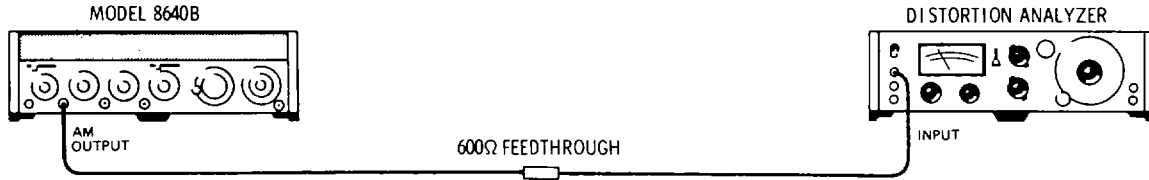

Figure 4-17. Internal Modulation Oscillator Distortion Test Setup.
1. Connect equipment as shown in Figure 4-17 after setting Signal Generator's controls as follows: